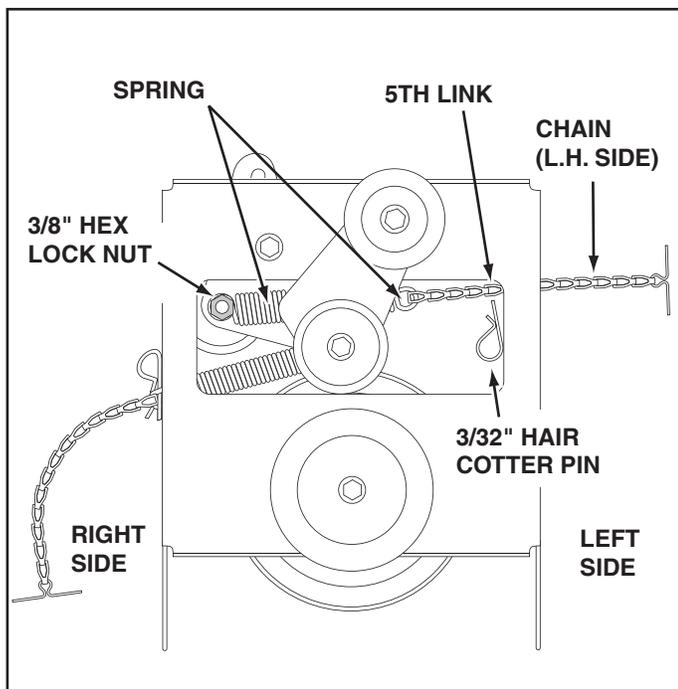

FIGURE 20
2. Hook the loose spring through the end of the tensioning chain. See figure 20.
3. Hook the other end of the spring onto the bottom of the bolt and nut which secure the idler pulley to the upper idler arm. Hold the bolt head and assemble a 3/8" hex lock nut onto the bolt, leaving it loose enough for the spring to pivot freely between the two nuts. See figure 20.
4. Attach a 3/32" hairpin cotter to the chain, placing it in the fifth link from the spring. See figure 20.